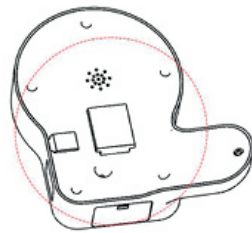

FIGURE 22
2. You will notice a sliding notch under the rear controller. (Figure 22)